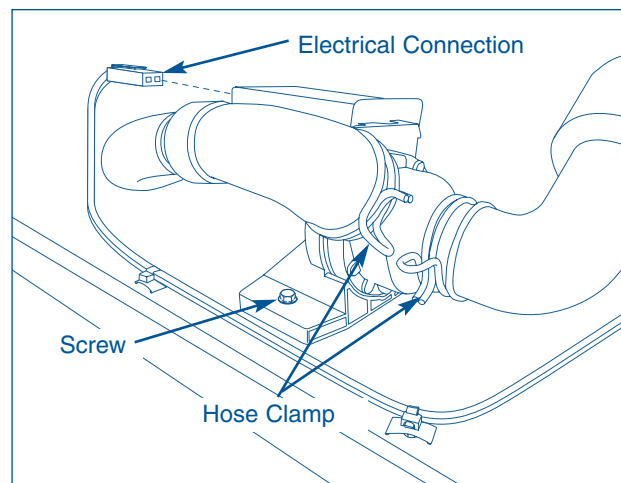

Figure 4-47.
2. Disconnect the wire harness from the left side of the drain pump. (See Figure 4-47)